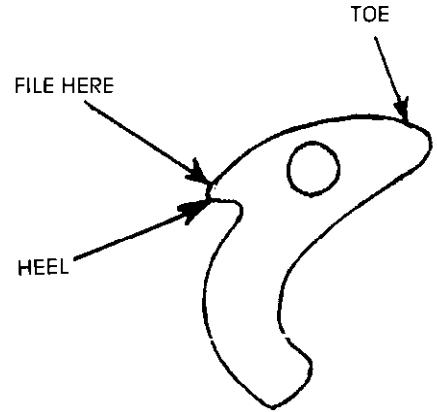

Figure 1
3. Use finger pressure to push inward on the toe (see figure 1.) of each flyweight so that the flyweight heel protrudes outward.
4. Using a fine #1, double cut, 1/2 inch wide file at least 3/32 inch thick, pass the file across the heel of the flyweight attempting to remove material. (See figure 1). If the flyweight has